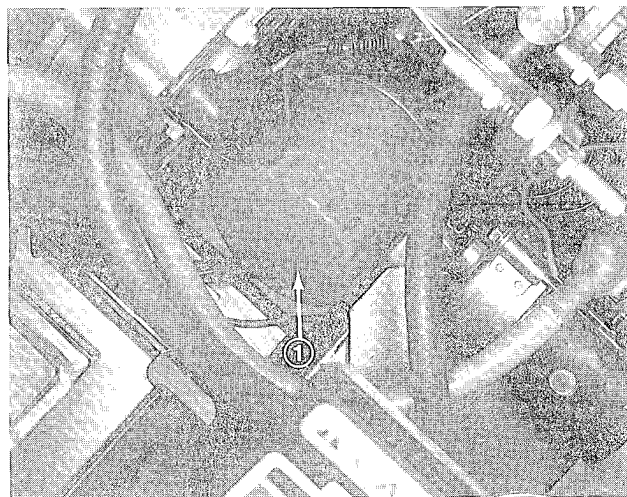

Figure 38
2. Remove oil filter (Fig. 38). Apply a light coat of clean oil to the new filter seal before screwing it on. **DO NOT OVER-TIGHTEN.**